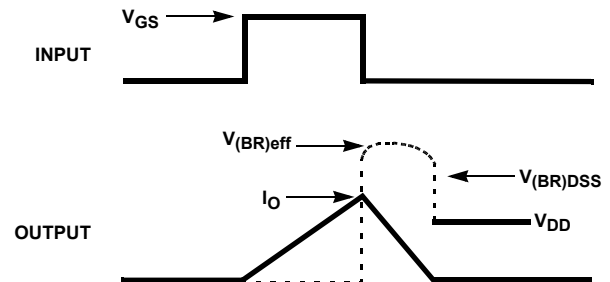
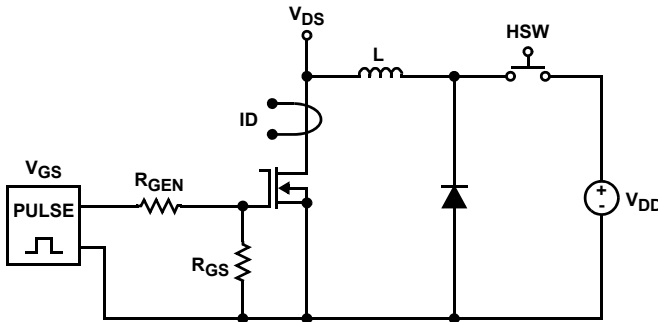

FIGURE 3. UIS WAVEFORMS
FIGURE 4. MODIFIED UIS TEST CIRCUIT
| FIGURE 3. UIS Waveforms .....   | 2 |
| FIGURE 4. Modified UIS Test Circuit .....                             | 3 |
3. Once the desired test current is reached, the gate drive is switched off, which abruptly turns off the MOSFET. Since the inductive load current cannot change instantaneously, the EMF of the inductor drives the MOSFET into drain-to-source avalanche (Figure 3).
Another commonly used test circuit for UIS is shown in Figure 4. Its advantage over the previously described test circuit is that it switches out the  $V_{DD}$  supply during avalanche by use of a High Speed Switch (HSW).
Both test circuits shown in Figures 3 and 4 are industry recognized test circuits for UIS. They conform to both JEDEC standard No. 24-5 and MIL-STD750D method 3470.2.
Due to the advantages noted, Intersil uses the test circuit shown in Figure 4. However, actual application circuits used by designers do not usually switch out the  $V_{DD}$  supply during avalanche. Thus, the proper circuit equations to be used by designers are generally those resulting from the test circuit shown in Figure 3.